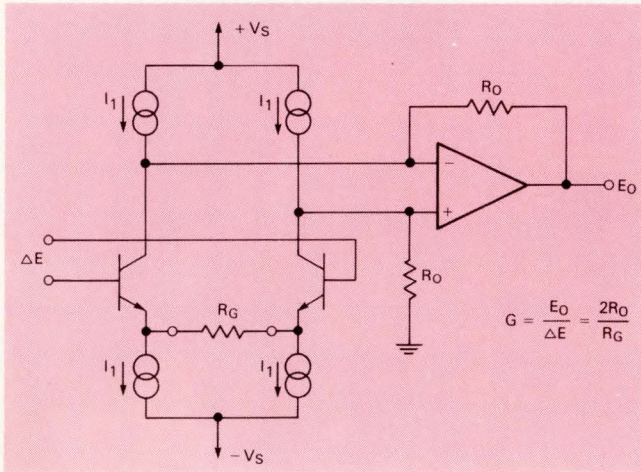

Fig 2. Simplified instrumentation amplifier circuit.
In the case of differential signal processing, the *instrumentation amplifier* is a better choice since it maintains high impedance at both of its differential inputs and the gain is set by a resistor located elsewhere in the amplifier circuit. One type of instrumentation amplifier circuit is shown in **Fig 2**. Notice that no gain-setting resistors are connected to either of the input terminals. Instrumentation amplifiers have the following important characteristics: (1) High impedance differential inputs, (2) Low input offset voltage drift, (3) Low input bias currents, (4) Gain easily set by means of one or two external resistors, and (5) High common-mode rejection ratio (CMRR).